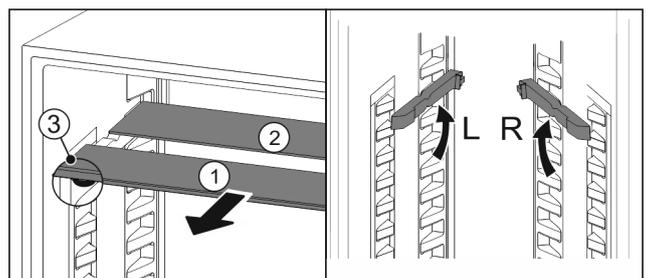

Fig. 58
- ▶ Pull the glass panels out Fig. 58 (1) from the front, one at a time.
- ▶ The glass panel Fig. 58 (1) and trim strip are at the front.
- ▶ The stops Fig. 58 (3) point down.